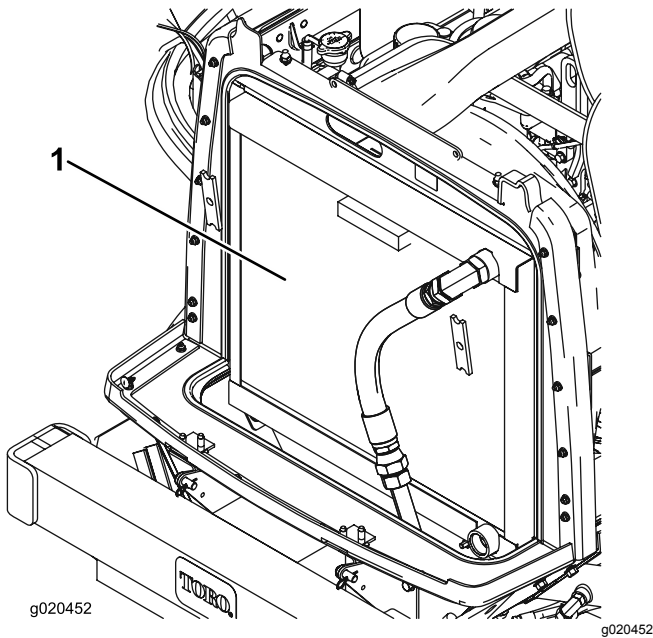

Figure 111
3. Clean both sides of the radiator/oil cooler area thoroughly with compressed air (Figure 111).